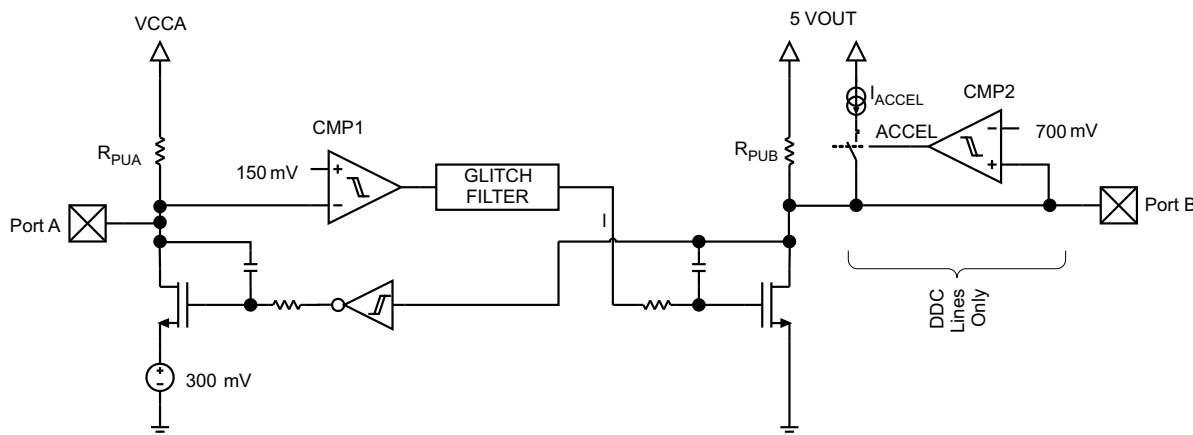

Figure 13. DDC/CEC Level Shifter Block Diagram
- The threshold of CMP1 (see Figure 13) is approximately 150 mV \pm the 40 mV of total hysteresis.